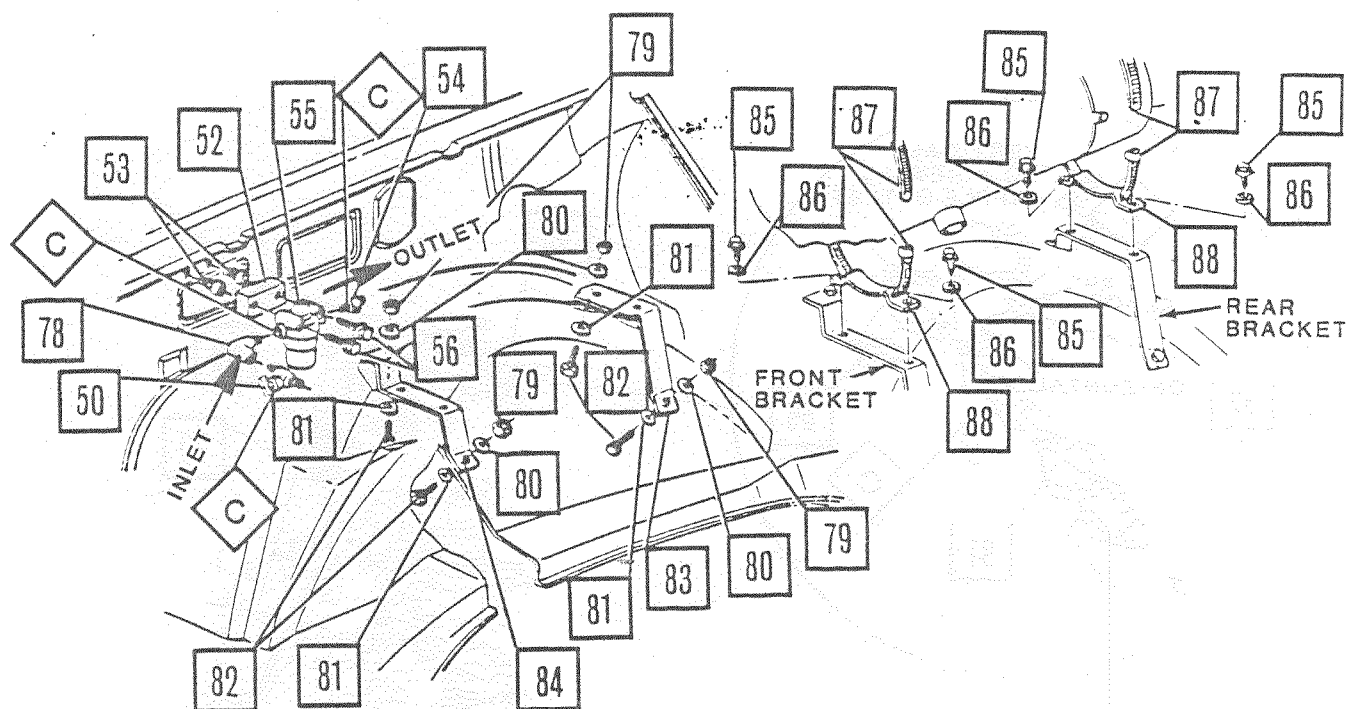

Figure 22.
Inlet-Outlet is marked on fuel filter. Make sure end of filter marked "OUTLET" is positioned as shown in Figure 22.
- 128. Assemble connector, valve shut-off, and elbow 90° fittings to fuel filter (Figure 22.).
- 129. Install fuel filter and spacer on vehicle with bolts (Figure 22.). Tighten to 10-13 lb.-in. (1.2-1.5 Nm).
- 130. Assemble clamps to brackets (Figure 22.).
- 131. Install brackets and clamps to front and rear brackets with bolts and washers (Figure 22.). Tighten to 75-95 lb.-in. (8.0-11.0 Nm).
- 132. Install front and rear heater mounting assemblies on right fender skirt with nuts, bolts and washers (Figure 22.). Tighten to 15-22 lb.-ft. (20.0-30.0 Nm).